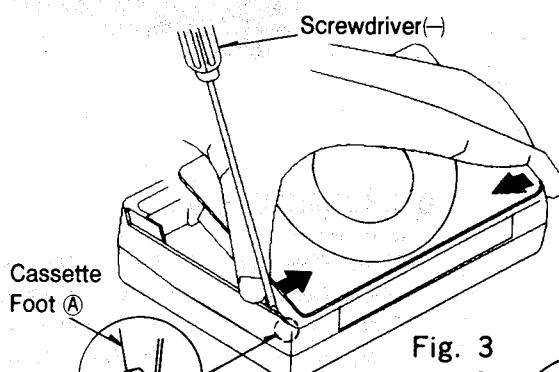

Fig. 3
2. With a (-) screwdriver as shown in Fig 3, and pull out the right-side of the cassette lid.
3. Remove the torque spring ⑥ in the direction of arrow.
4. By the direction of ⑦, remove the cassette foot.